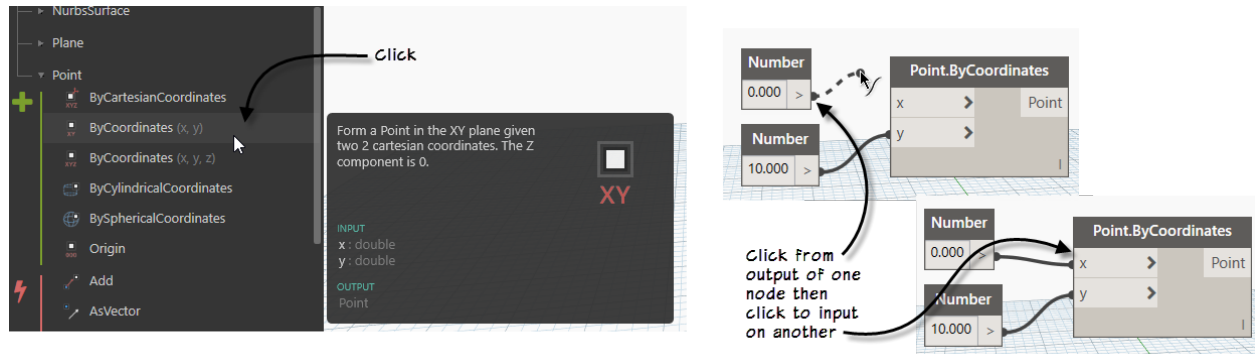

Figure 10
2. In the Library, click on: *Geometry*, then *Point* and then ***ByCoordinates (x,y)*** (see the left side of Figure 10).
5. Click on the output port (right side) of the first *Number* node and connect it to the x port of the *Point.ByCoordinates* node. Repeat for the second *Number* connecting it to the y port (see the right side of Figure 10).